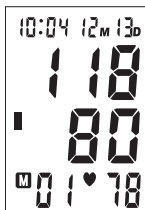

Fig. 1
4. When the first measurement is on the display (indicated by the 01 at the lower left of the screen), Fig. 1, press and hold the **M** (MEMORY) button until two horizontal lines flash, Fig. 2. This indicates that all measurements have been erased.